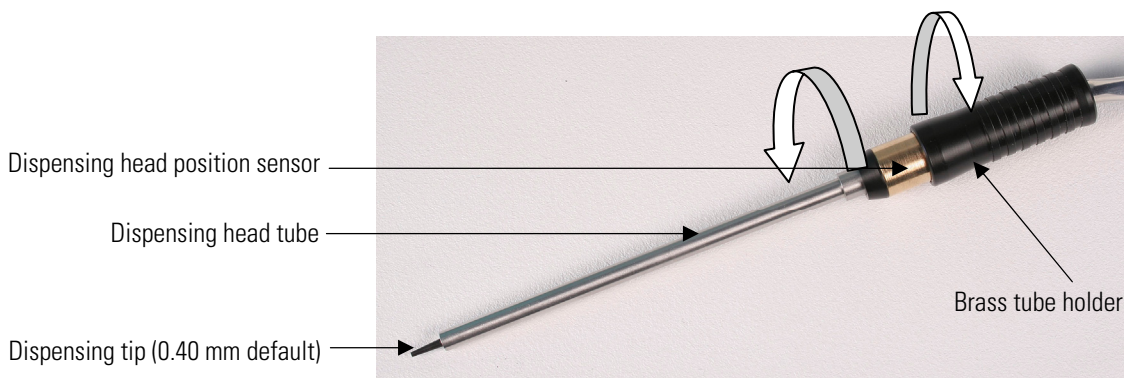

Figure 5–58. Replacing the dispensing tip (A)
1. Remove the dispensing head tube (Figure 5–58) from the brass tube holder (Figure 5–58) by turning the dispensing head tube counterclockwise and the brass part closest to it clockwise.
2. Replace the dispensing tip connected with a small piece of silicone tube in the dispensing tube (Figure 5–59). Use the dispensing head tube as a dispensing tip installation tool. Insert the fragile tip into the smaller hole of the tool and then install it into the small piece of silicone.